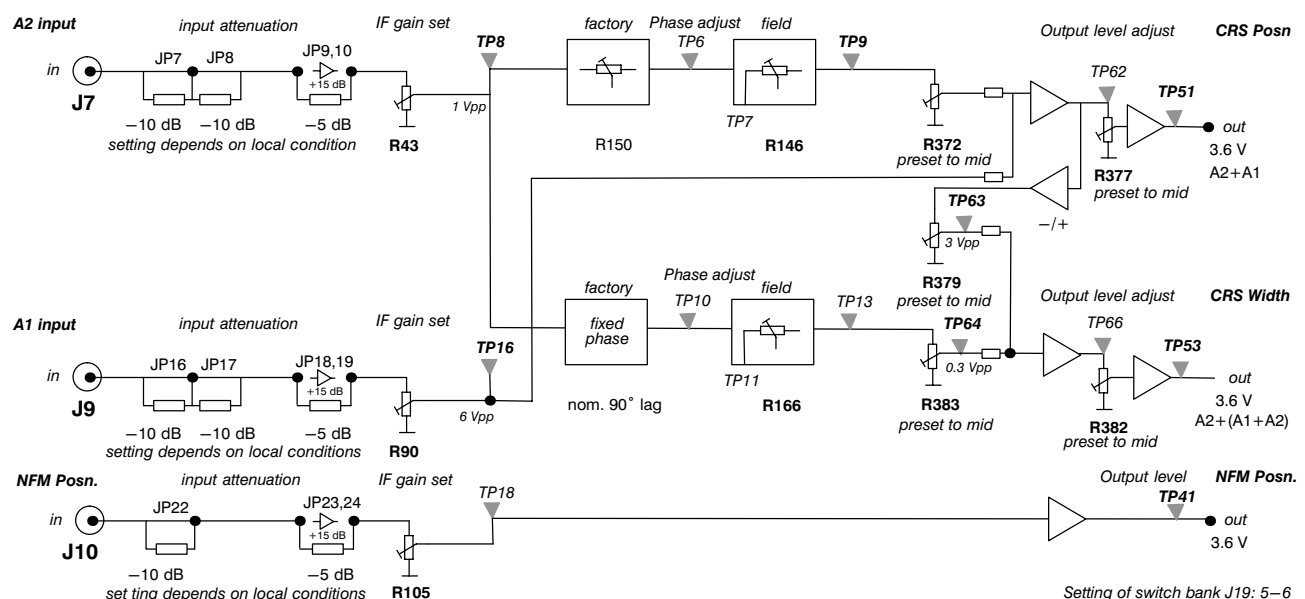

Fig. 4-4 Adjustment of detector channels for aerial monitoring (GP-1F B-Type)
- Check relative A1 – A2 phase with oscilloscope: measure between TP16 (A1) and TP9 (A2), see Fig. 4-4, 4-6, 4-7. Adjust with R146 to 180°. R150 is factory set.
- Check relative A1 – A2 phase with oscilloscope: measure between TP63 (A1) and TP64 (A2), see Fig. 4-4, 4-6, 4-7. Adjust with R166 to 180°. R150 is factory set.